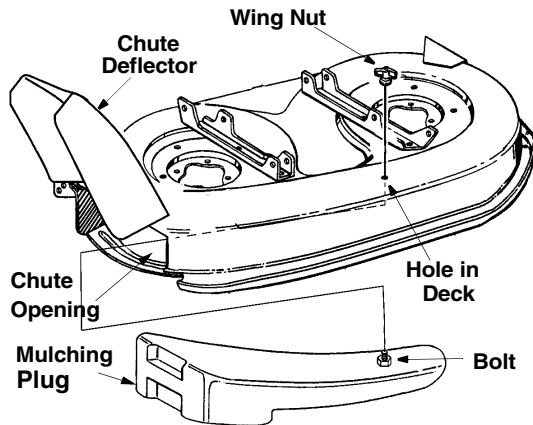

Figure 7
- Lift up the chute deflector and insert the mulching plug through chute opening. See Figure 7 .
- Line up the bolt on the mulching plug with the hole on top of the deck. Push up on the end of the mulching plug and secure with the wing nut. See Figure 7.